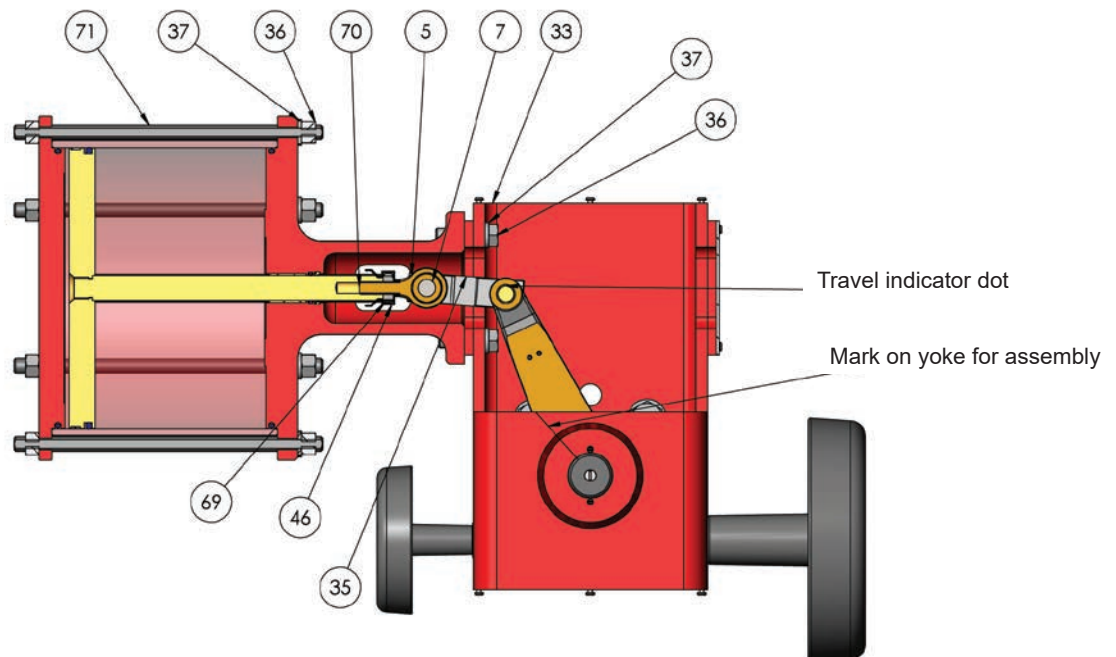

Figure 2
To facilitate positioning and reassembly, a matching mark on the yoke and lever in the fully closed position is provided - see Figure 2.
- H. Completely insert the shaft into the shaft bearing (8).
- I. Install and tighten body stud nut (27).
- K. Move the lever (34) on the shaft (19) towards the body and tighten the lever cap screw (49)
- M. Loosen the lever cap screw (49), move the lever (34) to the position where it hits the shaft bearing (8), and tighten the lever cap screw again.
- N. As shown in Figure 2, be sure to install the cylinder on the left side of the yoke and fix it with the four cap screws (36) and lock washers (37).
Mount the handwheel on the yoke both the sides (higher diameter wheel installed opposite to actuator, and lower diameter wheel installed on the actuator side - see Figure 2).